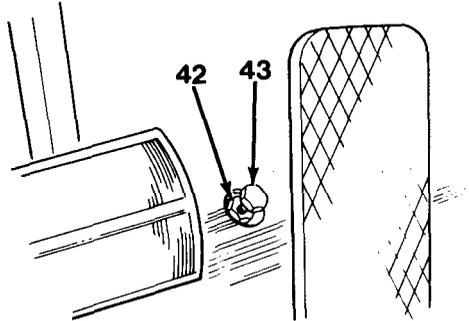
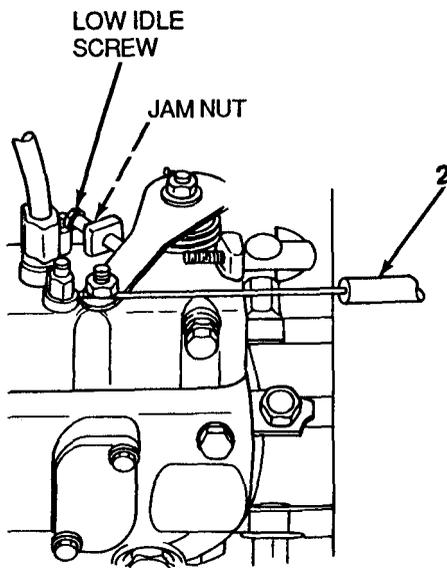

Figure 17-6
Figure 17-7
1. Release jam nut (42) on pedal stop capscrew (43, Figure 17-6) and screw all the way in.
2. Adjust cable (2, Figure 17-7) and linkage so that engine injection pump lever has full stop to stop travel. If full travel is not obtained, jam nuts on pedal end of cable conduit on cable end fittings must be adjusted to increase travel.
3. Check cable (2) to insure that threads on cable ends are not entering wiper seals on ends of cable conduit. If one does, ball joint and yoke on cable ends must be readjusted to move threads on cable core further away from that wiper seal.
4. Adjust pedal stop capscrew (43) on floor of cab by loosening the nut (42, Figure 17-6) and screwing capscrew (43) in or out.
5. Pedal should rest against stop capscrew (43) just as arm on fuel injection pump touches high idle stop.
6. Hold capscrew (43) in position and tighten jam nut (42).
7. Check cable (2, Figure 17-7) for free travel.